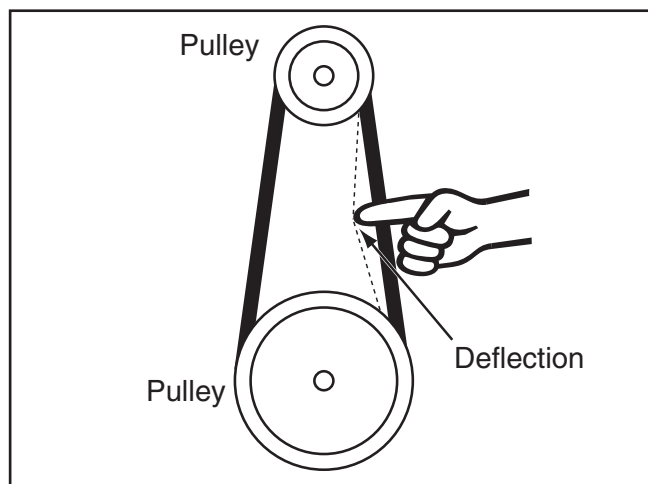

Figure 67. V-belt deflection.
4. Push the center of the V-belts. Note the amount of deflection (see **Figure 67**). If deflection is more than $\frac{1}{8}$ ", tension the V-belt.